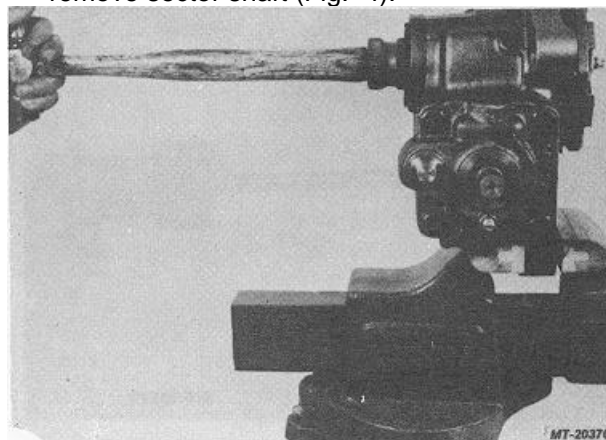

Fig. 4
2. Remove any paint or corrosion from serrated end of sector shaft (50) and loosen jam nut (59) on sector shaft adjusting screw (51).
3. To drain steering gear fluid remove six "special ring head" bolts (61) from side cover (58). These bolts have a special ring located on bolt head for sealing purposes, if these bolts are replaced, they must be replaced with same "special" type and length of bolt.
4. Remove side cover (58) and sector shaft (50). A soft hammer or wooden handle may be used to remove sector shaft (Fig. 4).